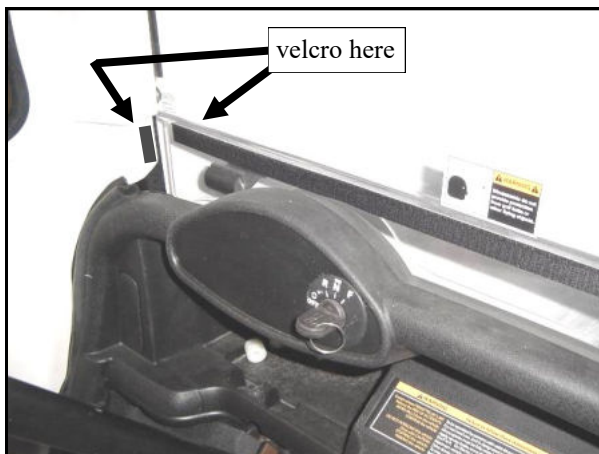
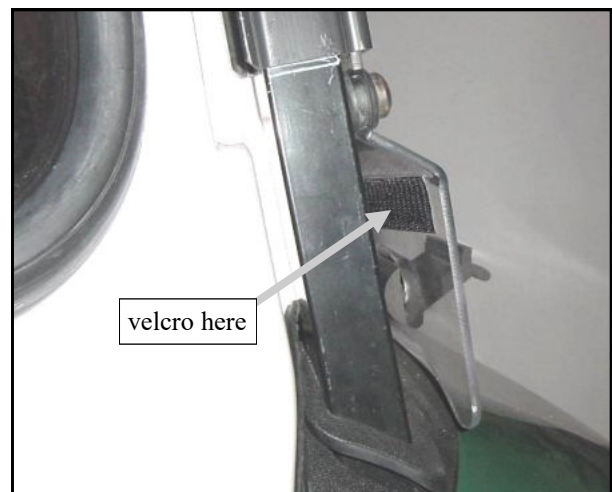

Fig. 8.2 (view taken from rear of passenger's side)
Fig. 8.1 (view taken from passenger's side)
8.1 Per fig. 8.1, the two bends in the lower window are shown. Attach the velcro to the inside surface as shown up against the lower, first bend. The velcro can be cut to the full width of the lower window (37-3/4") even though the first and last 1" will not be used where the cowl filler will bend inward and attach to the plastic per fig. 8.2.
8.2 Per fig. 8.2, attach a 3" long piece of velcro on the plastic where shown. Repeat for passenger's side.